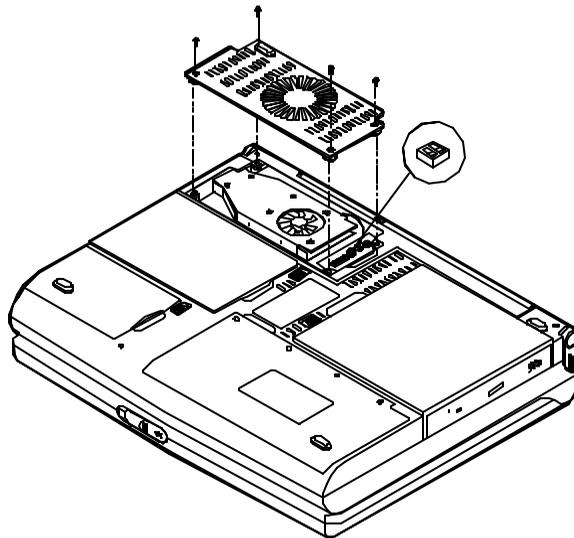

Figure 2-7
3. Remove the CPU cover. Locate the 2-pole DIP Switch to set the configuration (Figure 2-7).